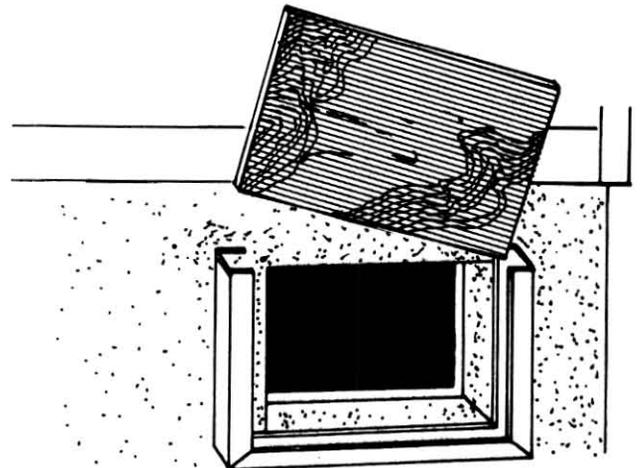

Figure 6-12
- * Equip windows and doors with removable cover plates to be put in place when flooding is expected. These covers may have non-watertight edges as shown in Figure 6-12. This illustration shows a plywood panel that is easily mounted or removed in wood or metal channels. It is useful for protecting against floating debris. If a watertight panel is required, it can be nailed, screwed or bolted to the window or door frame and carefully caulked around the edges. If panels are nailed, the use of double-headed duplex nails will facilitate later removal.